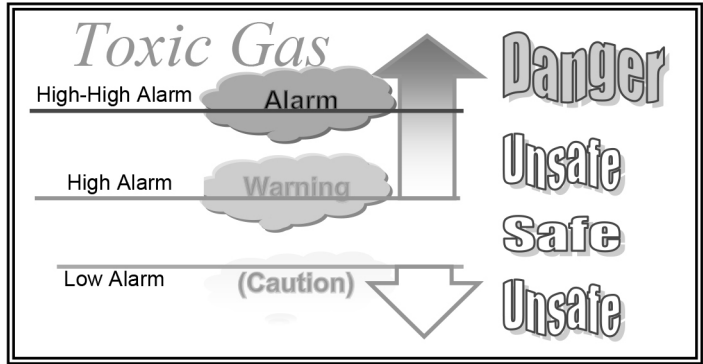

Figure 56: Toxic gas alarms
- Caution is a low alarm and set to activate on negative drift of -10% of the sensor range. A trouble alarm occurs if the reading drifts to -20% of the sensor range. *Figure 56* depicts the relationships of these alarms.